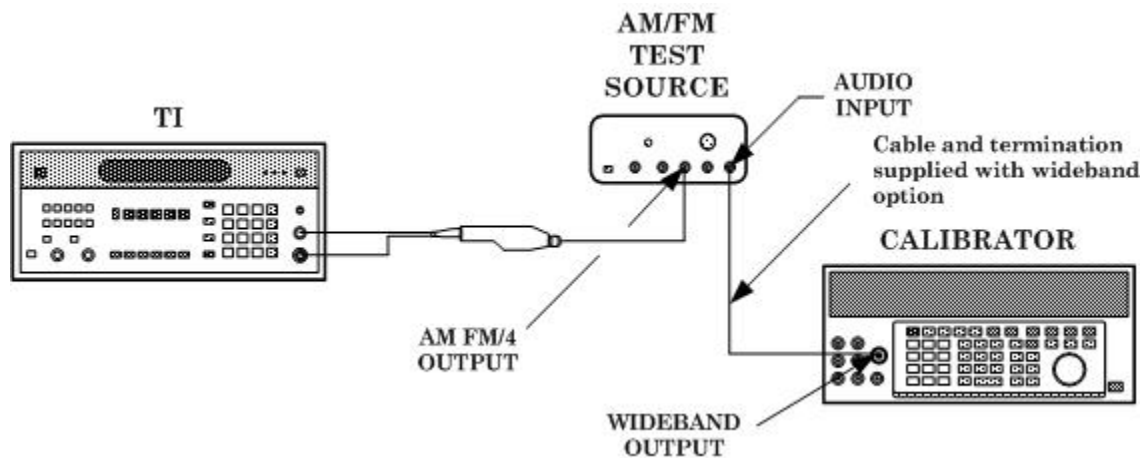

Figure 13. Audio filters setup.
- (1) Press TI **INSTR PRESET** key.
- (2) Set AM/FM test source **TEST MODE** switch to **FM**.
- (3) Connect equipment as shown in figure 13.